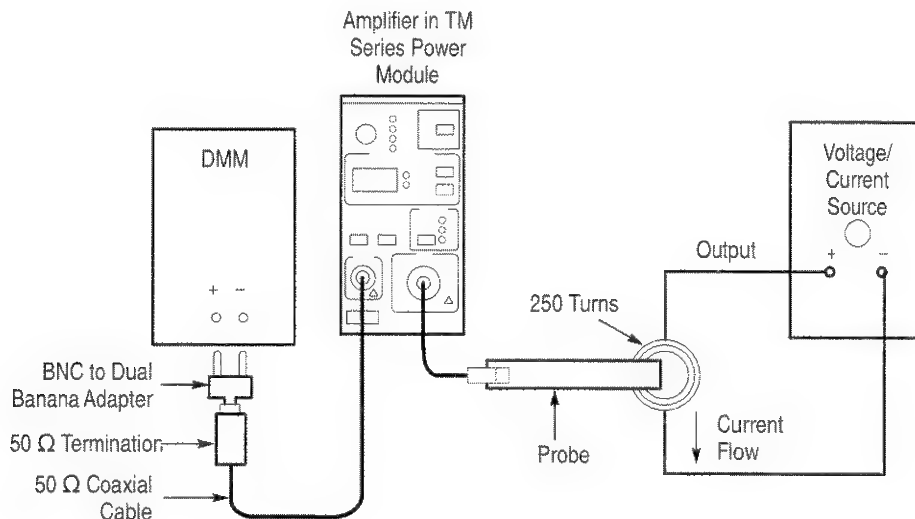

Figure 6-7: DC Accuracy Adjustment Setup
4. Clamp the current probe around the current loop. (See Figure 6-7.) Check that the arrow-shaped indicator on the probe points away from the current source.